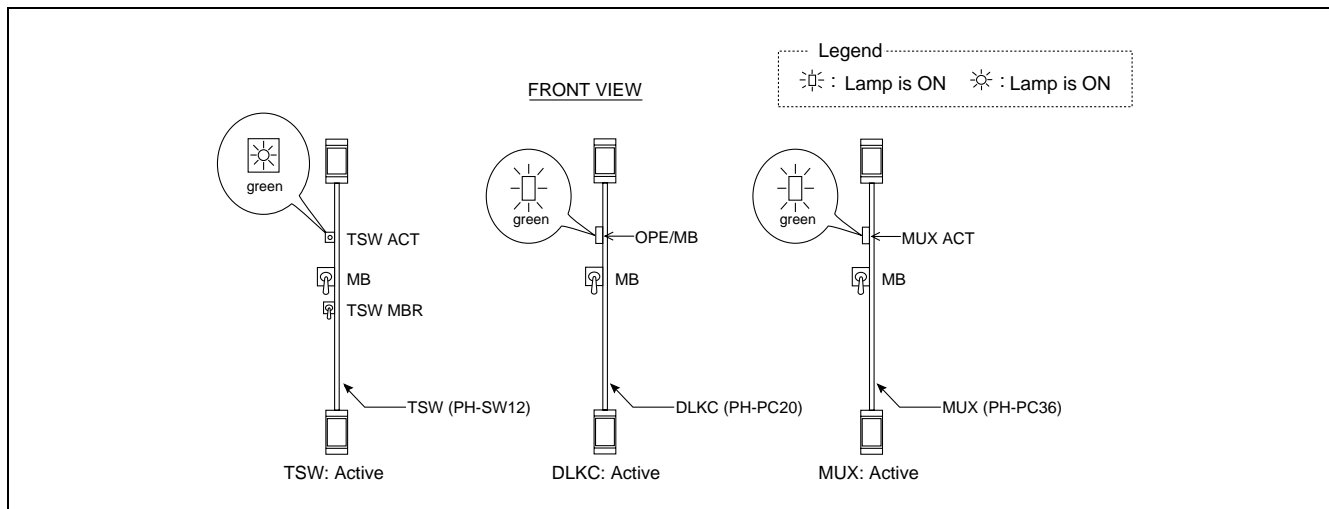

Figure 6-49 TSW/DLKC/MUX in ACT Mode
(1) Check all the lamp indications in Figure 6-49, which are in the same switching block.